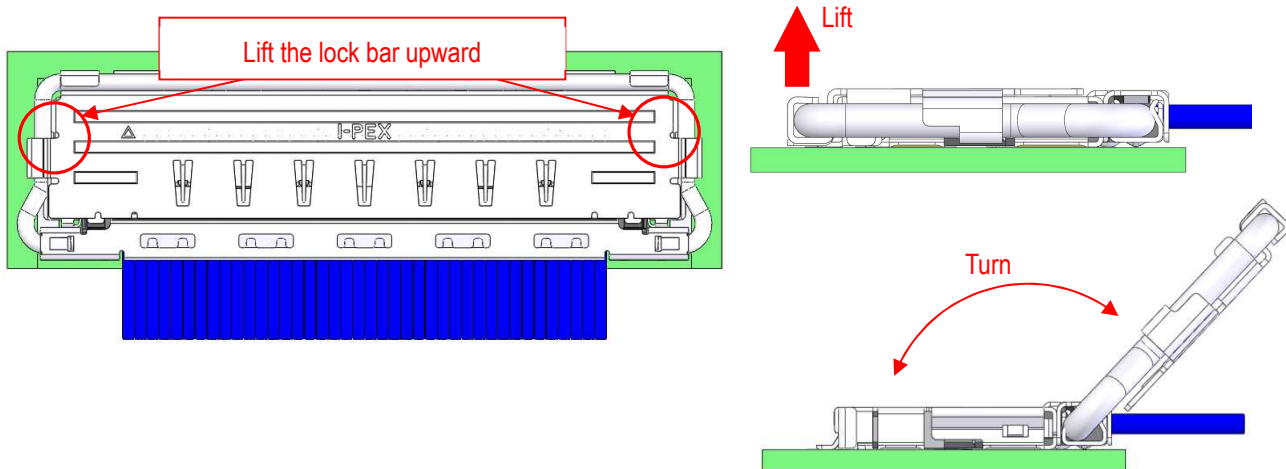

Fig.14
- ① Lift the **the circled** positions of the pull bar upward to release the lock. Then, turn lock bar ass'y as shown in Fig.14.